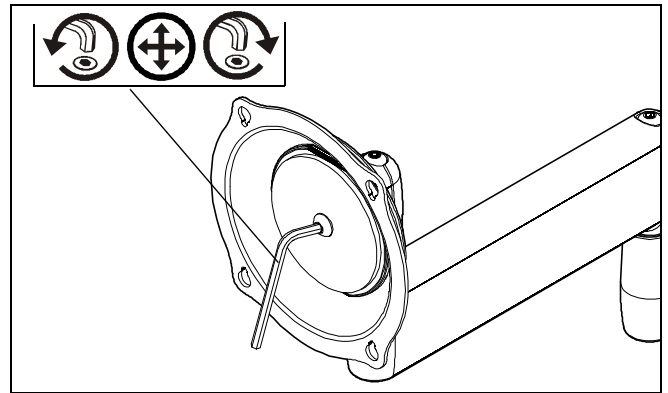

Figure 18
5. Using a hex key turn the tension adjustment screw clockwise to increase tension, or counter-clockwise to decrease tension. (See Figure 18)